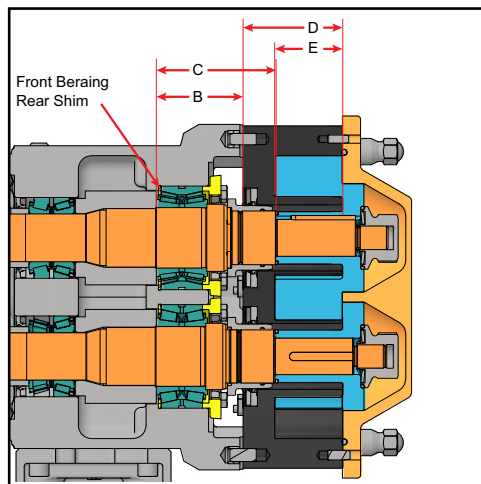

Figure 53 - Measure B, C, D and E
- If it is necessary to calculate the required shims for replacement shafts, bearings or both, refer to Figure 53; carry measurements and calculations to three decimal places (e.g., .059).
- Measure "B" in the gear case and "C" on the shaft (Figure 53).
- Measure "D" and "E" on the body (Figure 53).
(Callouts for both Figure 53)